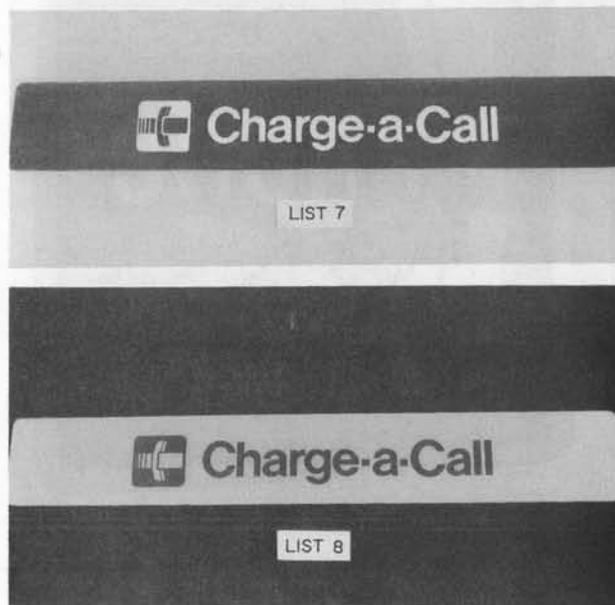

Fig. 1—◆KS-19945, Lists 7 and 8 Signs◆
2.01 Two signs are available (Fig. 1):